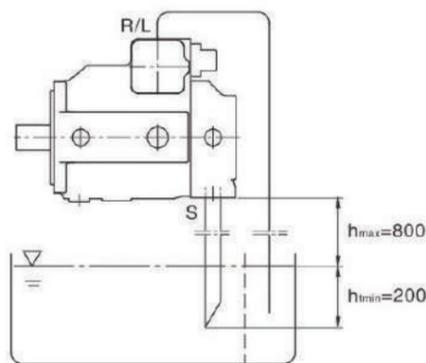

图4
b) 当油箱的最低液面比泵的上端低时,泄油口以及可能包括《S》口必须用管道连接(见图4)。此情况如同本节《安装在油箱外面》中a)项所述。
When the minimum level in the tank is lower than the upper end of the pump, the drain port and possible port S must be connected with pipes. (See Figure 4). This situation is same as what is specified in a) Mounting outside of the Tank in this section.
如安装在油箱之上, 请见图4。
For mounting on the tank, see Figure 4.